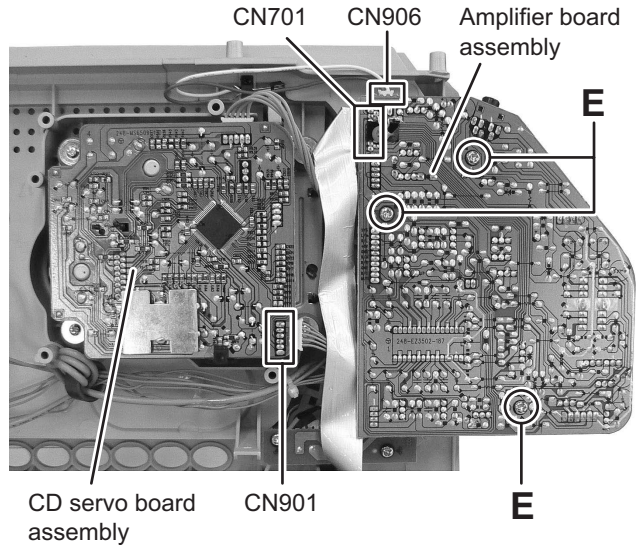

Fig.8
3.1.4 Removing the Amplifier board assembly (See Fig.8, 9)
- (1) Disconnect the card wire from LCD board assembly connected to connector CN701 of the Amplifier board assembly. (See Fig.8)
- (2) Disconnect the connector wire from Amplifier board assembly connected to connector CN901 of the CD servo board assembly. (See Fig.8)
- (3) Disconnect the connector wire from CD door switch connected to connector CN906 of the Amplifier board assembly. (See Fig.8)
- (6) Remove the three screws **E** attaching the Amplifier board assembly. (See Fig.8)